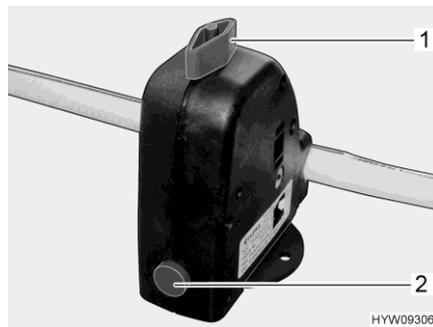

Fig. 138 Safety/drainage valve (Truma)
- Close the safety/drainage valve (Truma). Turn the knob (Fig. 138,1) perpendicular to the safety/drainage valve and push the push button (Fig. 138,3) in.